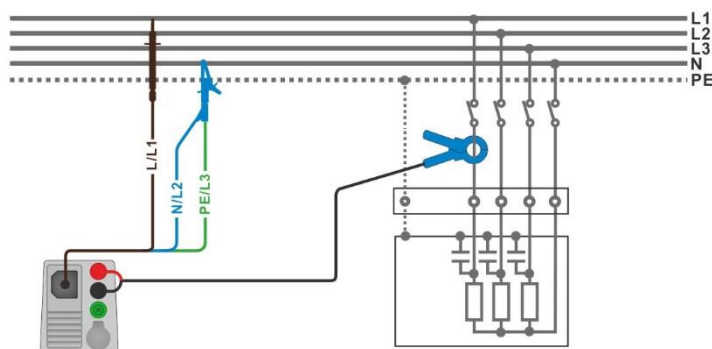

Figure 7.109: Harmonics measurement
- ▶ Connect the 3-wire test lead and current clamp to the item to be tested, see **Figure 7.109**.